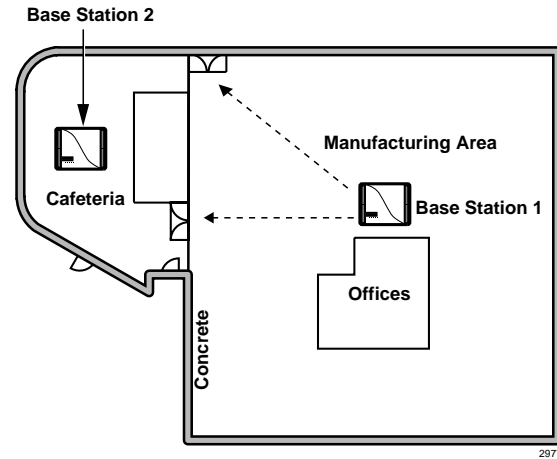

Figure 16-11 System in a Manufacturing Area
- ◆ Manufacturing plant (see Figure 16-11).